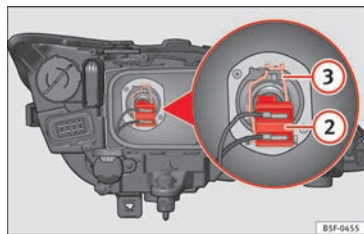

Fig. 104 Dipped beam headlights.
- Remove connector » Fig. 104 ② from the bulb.
- Unclip the retainer spring » Fig. 104 ③ pressing inwards to the right.